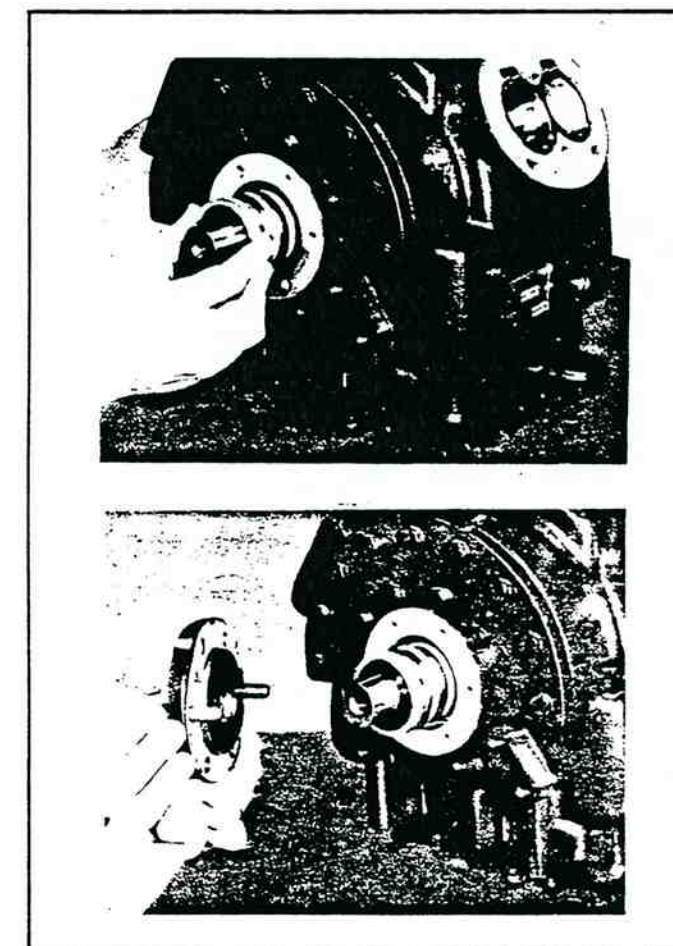

Figure 16-42: Installing Shaft Seal Assembly
18. Slide seal assembly onto shaft until neoprene bellows starts to grip the shaft (figure 16-42).